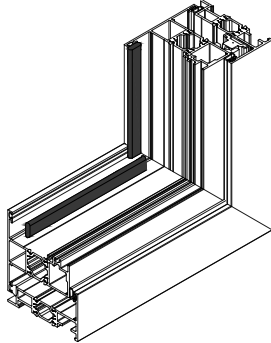

FIG. 1
- Clean the exterior glazing leg by using IPA 2 wipe method. Apply 1/8" PolySHIM tape ensuring it is not loose or wavy. Ensure that the corners of the tape do not overlap. See **FIG. 1**